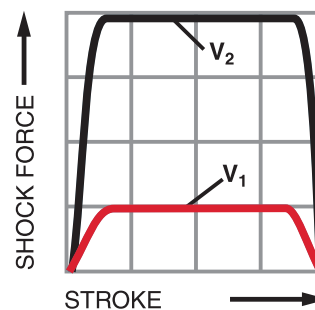

Figure 2
**Varying Impact Velocity:** Increasing impact velocity (weight remains the same) results in a radical change in the resultant shock force. Shock absorbers are velocity conscious products; therefore, the critical relationship to impact velocity must be carefully monitored. Figure 2 depicts the substantial change in shock force that occurs when the velocity is increased. Variations from original design data or errors in original data may cause damage to mounting structures and systems, or result in shock absorber failure if the shock force limits are exceeded.